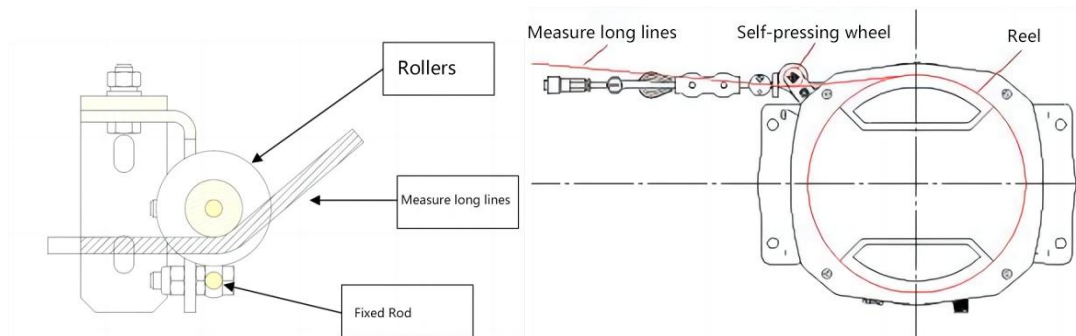

Figure 4.3-10
- After installation, the length measurement line should be tightened against the lower edge of the roller. The larger the L2 size, the better the tensioning effect, as shown in Figure 4.3-10: